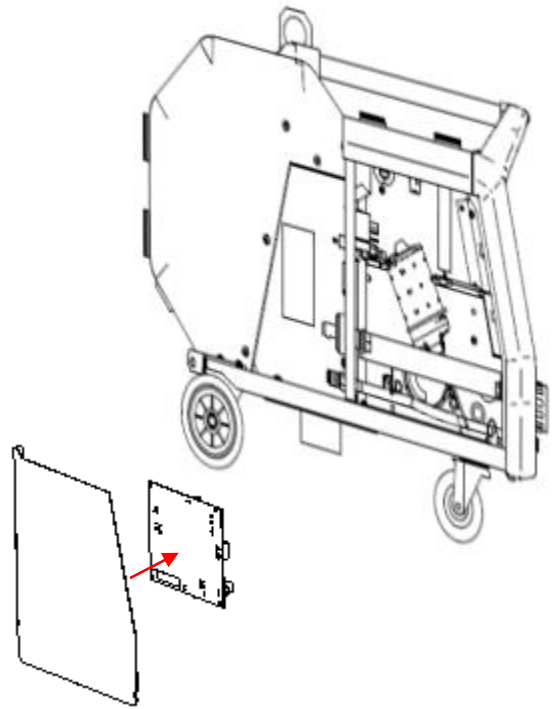

Figure 2 – Motor Control board location
4. Slide back carefully the left side panel. Locate the motor control board. **See Figure 2**